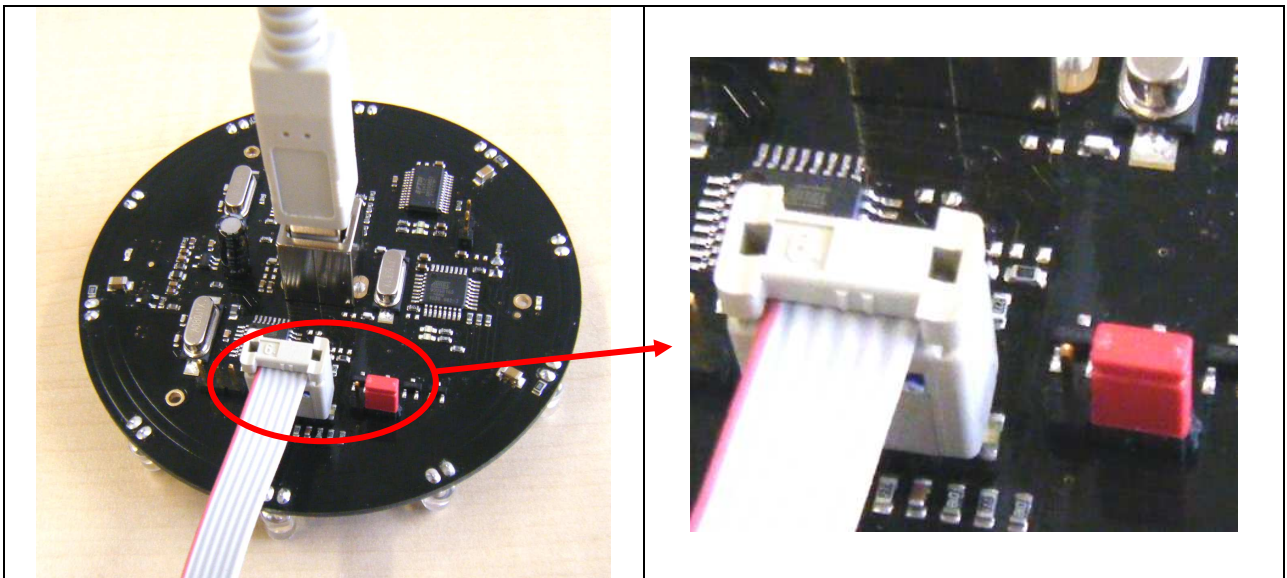

Figure 4.3:firmware cable and jumper in firmware mode
3. Put the firmware programming jumper of the OHC in the “firmware mode” position and connect the firmware cable (figure 4.3).